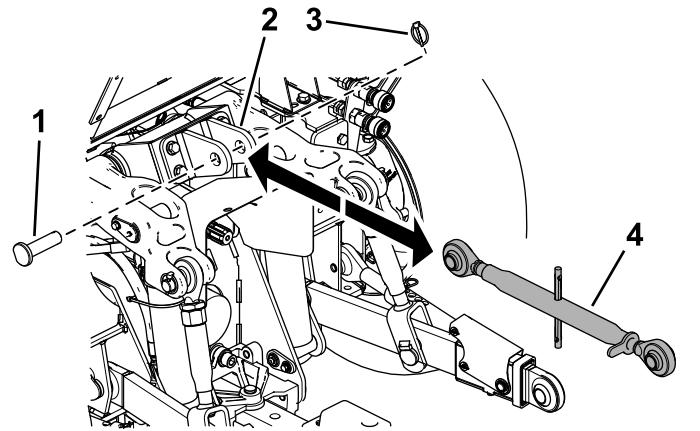

Figure 23
**Note:** Refer to Figure 23 for this procedure.